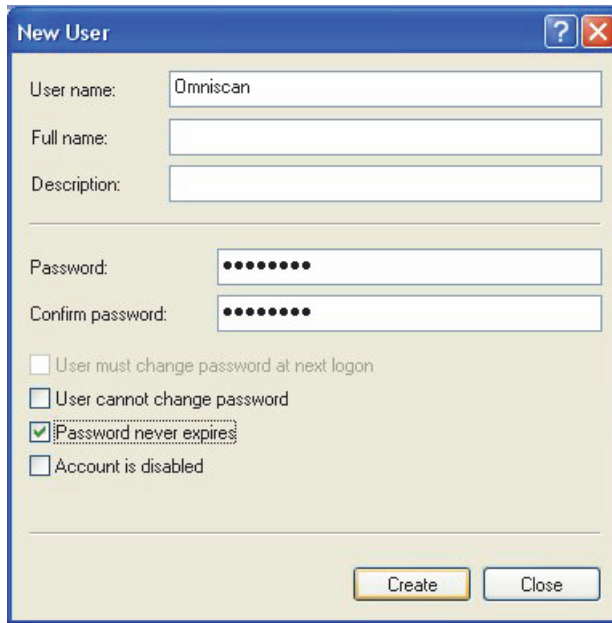

Figure 14-6 The New User dialog box (Windows XP)
The **New User** dialog box appears (see Figure 14-6 on page 288).
- Clear the following check boxes (see Figure 14-6 on page 288):